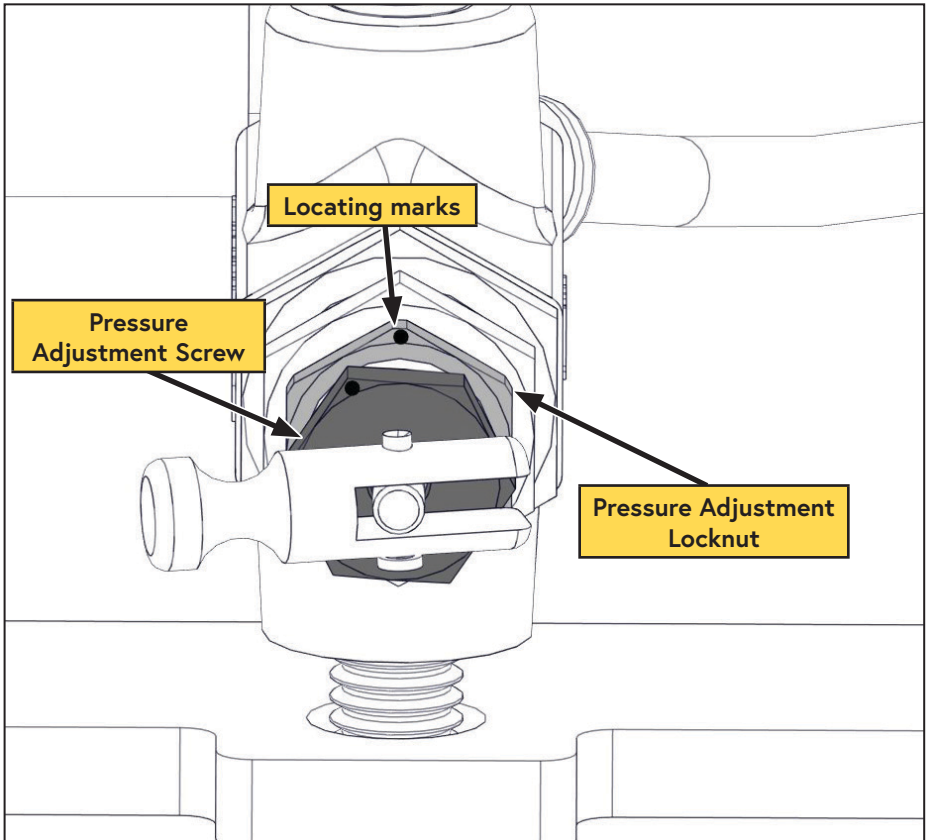

Figure 44 — Adjusting the Unloader Valve
- Make a locating mark on both the "Pressure Adjustment Locknut" and the "Pressure Adjustment Screw" (Figure 44).